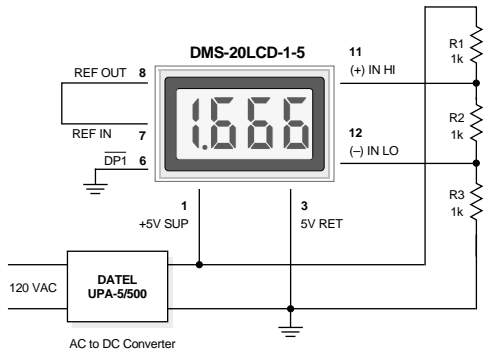

Figure 3. Differential Input Configuration (5V-Powered Models)
**2. Differential Input Configurations:** Differential measurements can be made with either 5V-powered or 9V-powered meters. Figure 3, though not a practical real-world application, uses a voltage divider to demonstrate the concept of a differential input signal. Be careful not to exceed the ±2V common mode voltage limitation for 5V powered meters.